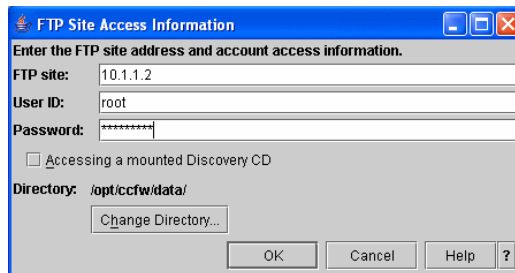

Figure 39 Specify the details for access to the FTP server
4. In the details window, enter the IP address of the FTP server, username and password for the access and the location of the microcode image (see Figure 39). After connecting to the FTP server, a license acceptance window is displayed. Confirm the license agreement and continue with the next step.